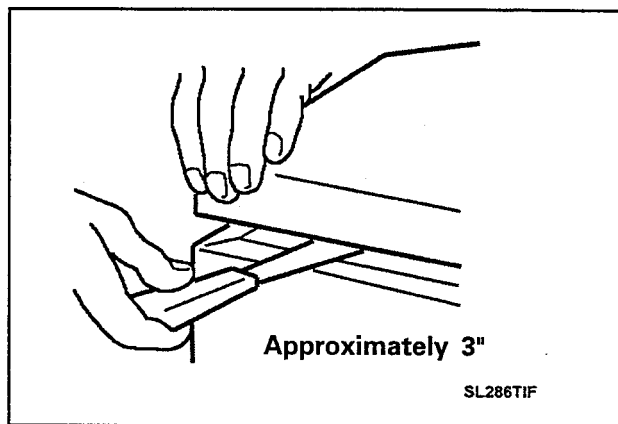

Figure 4-10
NOTE: *The locating pins and top clips are mounted to the front panel flange on all the models (Figure 4-10).*
2. To raise the top assembly, insert a thin-bladed tool (such as a putty knife) between the front panel and top assembly approximately three (3) inches in from each corner. While raising the top assembly, depress each spring clip (*Figure 4-10*).